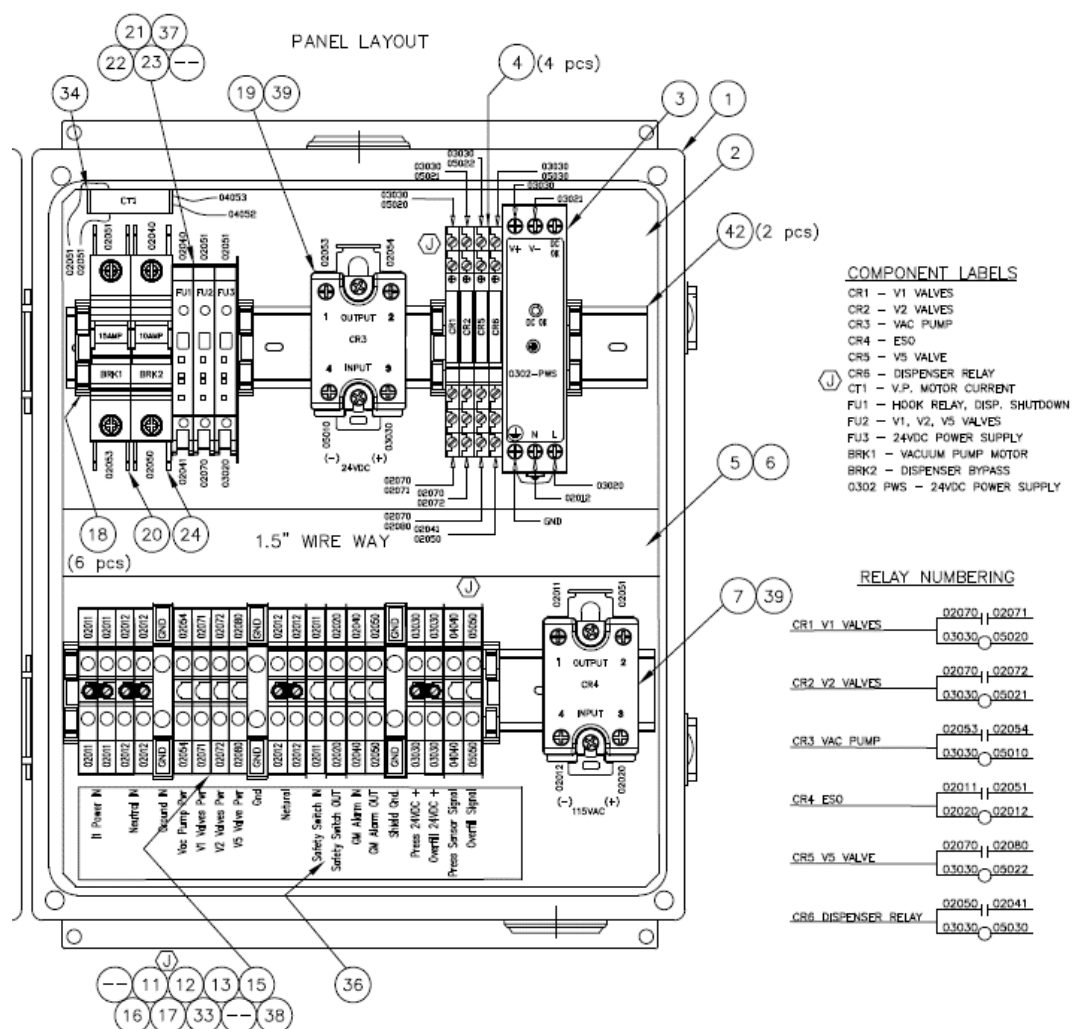
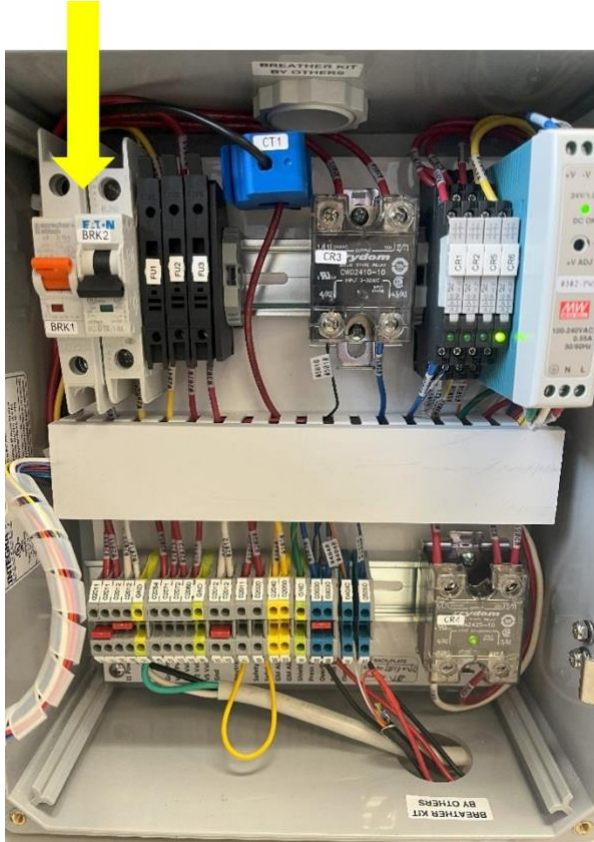
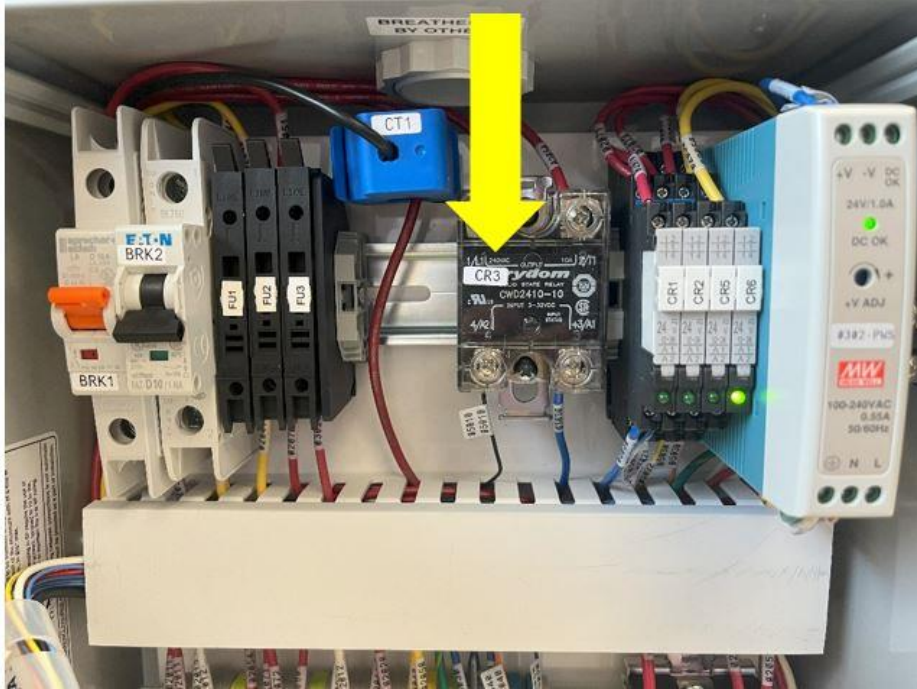

Figure 9-2: VST Control Panel, Inside Panel Replacement Parts
Figure 9-3: Vacuum Pump BRK1
Figure 9-4: Vacuum Pump Solid State Relay
- See Figure 9-2.
- **See Figure 9-2, and 9-3.**
4. Find the Vacuum Pump motor breaker (**See Figure 9-2, item #20**) and note the wire numbers and locations. **See Figure 9-3.**
See Figure 9-3.
3. Be sure the switch on the breaker is in the UP position. **See Figure 9-3.**
- **See Figures 9-2, and 9-4.**
4. Find the Vacuum Pump solid-state relay (see **Figure 9-2, item #19**) and note the wire numbers and locations. **See Figure 9-4.**
5. Using a screwdriver, remove the four wires from the four terminals. **See Figure 9-4.**
- See Figure 9-4.
3. Reinstall the wires to the appropriate contacts. The bottom VDC wires must be installed as shown in **Figure 9-4** because of polarity.